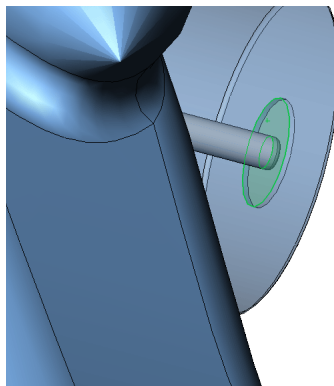

Fig. 32
Step 3. Use **Right arrow** key to rotate assembly to view side face of **inside face of E-Clip4**, Fig. 32.
Step 4. Click **inside face of E-Clip4**, Fig. 32.